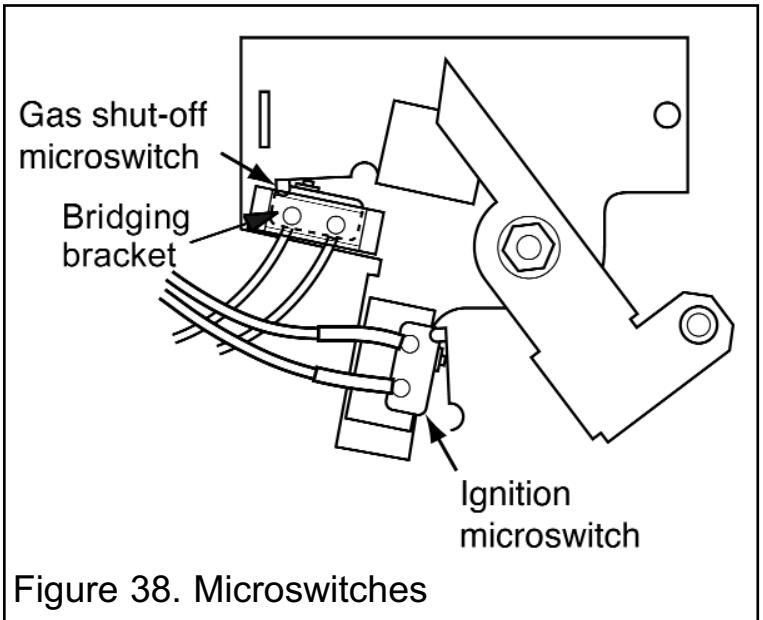

Figure 38. Microswitches
2. Disconnect the leads from the ignition microswitch (The lower of the two microswitches - See figure 38).
(See figures 38 & 39).
4. Detach the bridging bracket, microswitch assembly by removing two screws (See figure 38).